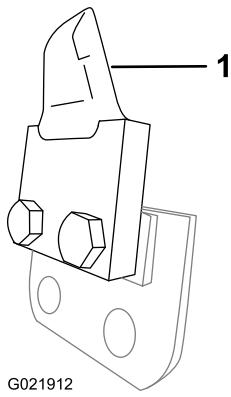
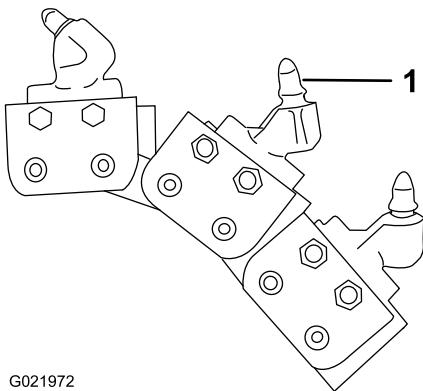

Figure 23
Figure 24
- **Rock and frost teeth** (Figure 23) or **shark teeth** (Figure 24) are best for cutting ground that is very hard, rocky, or frozen; it is also used for cutting through asphalt.